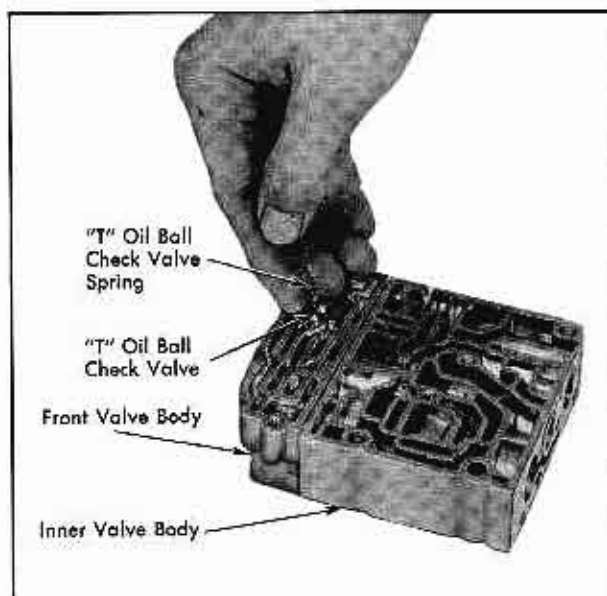

Fig. 14-74 Installing "T" Ball Check and Spring
3. Install spring and "T" oil ball check in front valve body, Fig. 14-74.